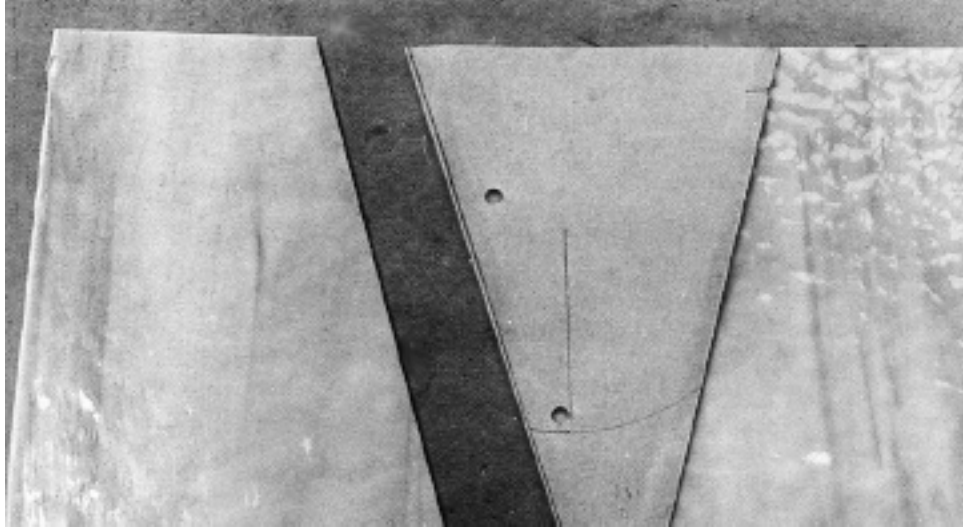

Fig 10.2
3. For the A panels, cut a strip 190mm wide, lay the template on it, and cut the panels as in fig 10.2. Cut B and C panels from a strip 132mm wide. Foil all pieces.